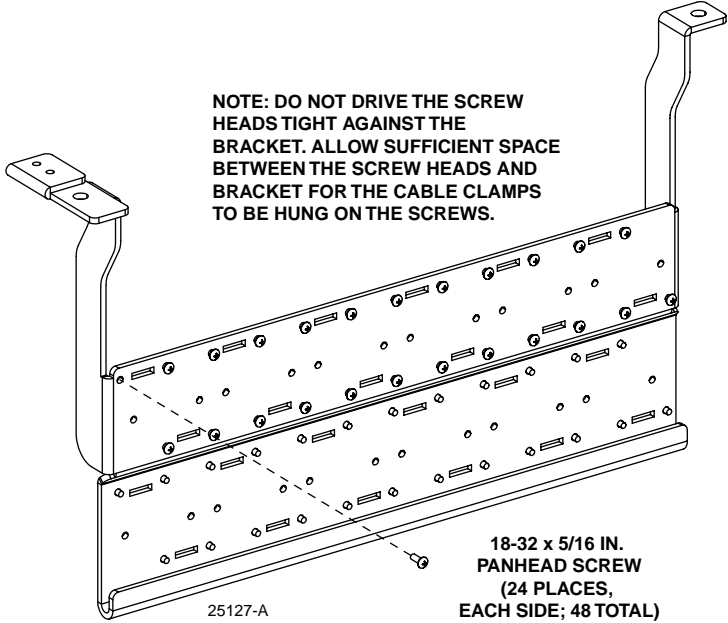
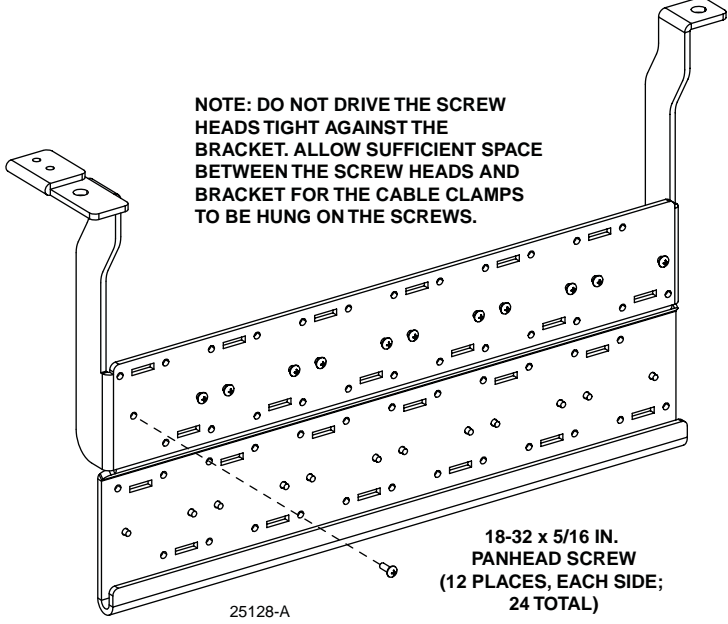

Figure 34. Standard Cable Screw Placement
Figure 35. Large Cable Screw Placement
- 2. Install 8-32 x 5/16 inch pan head screws as shown in Figure 33, Figure 34, and Figure 35. Leave enough space between the screw heads and bracket for the cable clamps to be hung on the screws in a later step.